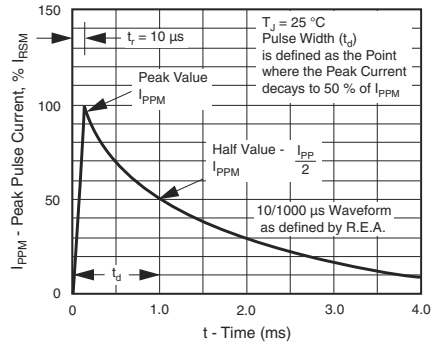
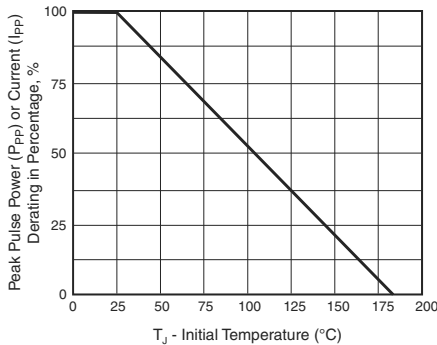

Figure 3. Pulse Waveform
Figure 2. Pulse Power or Current vs. Initial Junction Temperature
(2) Surge current waveform per fig. 3 and derate per fig. 2